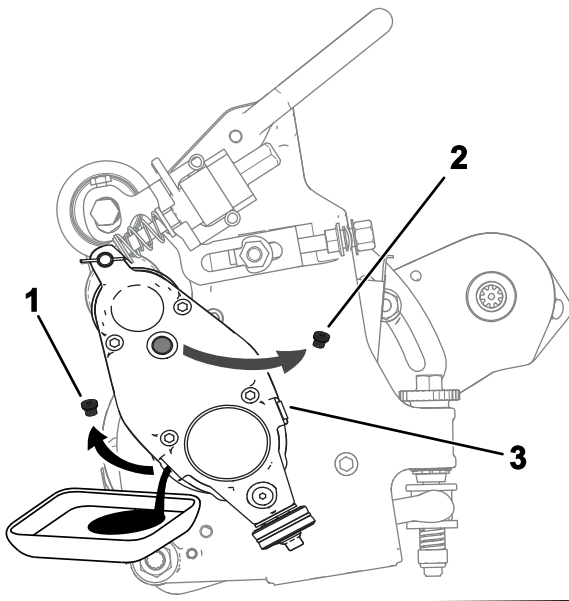

Figure 23
5. Tip the cutting unit (as shown in Figure 23) until the drain port is at the bottom to ensure complete drainage.